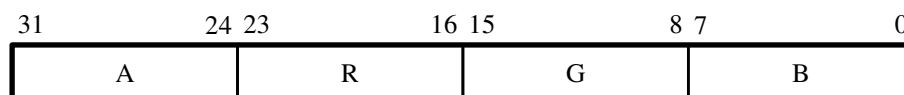

Figure 17. 32-bit RGBA Color Space.
- 32-bit RGBA — This format contains alpha values as well as RGB and uses 8 bits of each color as shown in Figure 17. This mode is defined as 8 bits per color and four color planes.